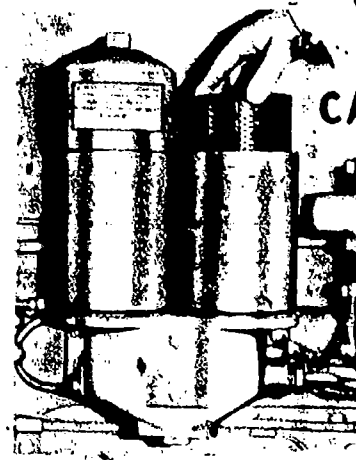

Fig 2-8. Lubricating-oil filter.
- (2) **Fuel-oil filters.** In addition to the metal strainer mentioned above, most diesel-fuel systems also contain a filter to remove any remaining small particles of dirt that might clog the injectors. Fuel-oil filters are manufactured in various models by a number of manufacturers. All fuel entering the injectors first passes through the filter elements. The filter elements are made of cotton fiber or mineral wool and glass cloth. After continued use, these filters will become packed with dirt filtered from the fuel, and the flow of fuel to the engine will be reduced to a point where the engine ceases to function properly or stops. Most types of heavy equipment have fuel-pressure gages which will indicate when filters are dirty. Filter elements are easily removed and must be replaced with new elements when they start to restrict the flow of fuel to the engine.
- (3) **Lubricating-oil filters.** Most internal combustion engines are equipped with an oil filter. This device filters out the dust, dirt, and grit that enters the oil during operation of the engine and carbon and other materials that come from engine operation. Lubricating-oil filters (fig 2-8) depend upon a filtering element for their filtering action. When this filtering element is saturated with solid particles, it ceases to function. It is a good practice to replace the element with a new one every time the crankcase is drained and new oil is added. By such replacement you are assured of clean oil and a minimum of wear on engine parts.